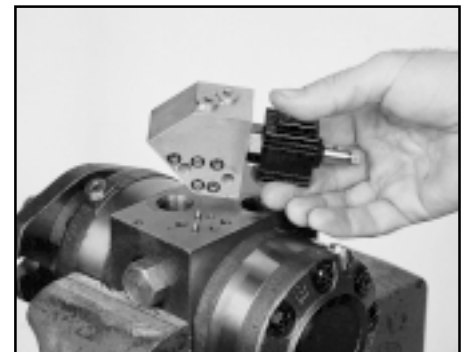

Figure A23
SEE FIGURE A23.
3. Place solenoid valve assembly on the center block, insert bolts and torque to 15 ft lbs. SEE FIGURE A23